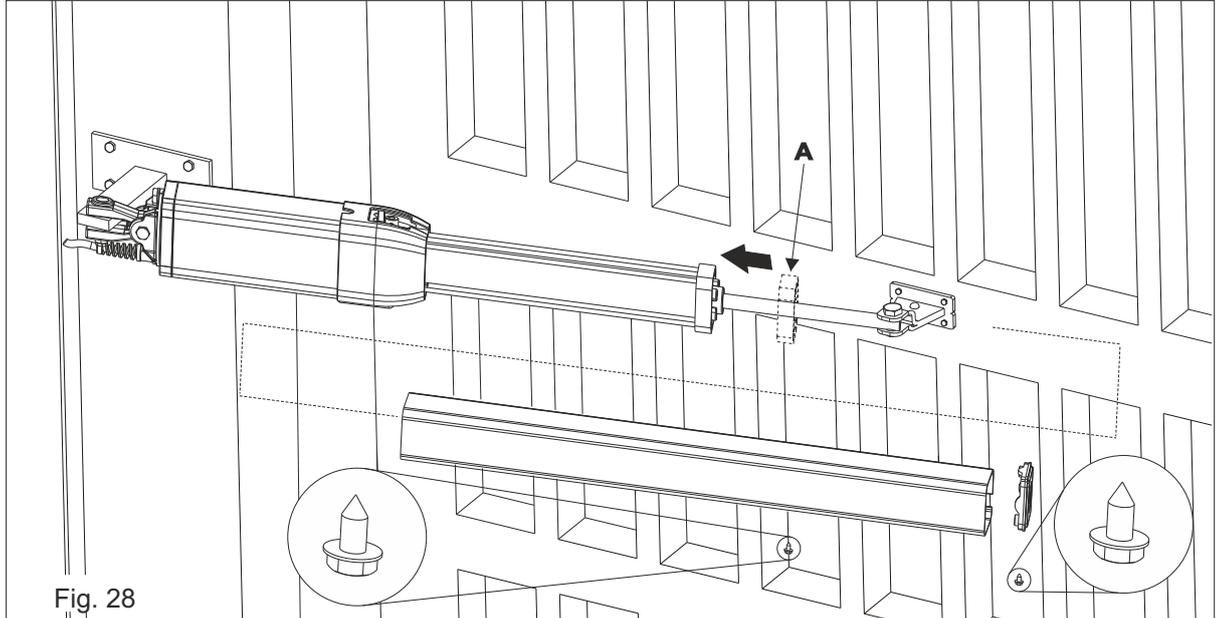

Fig. 28
Make sure to have inserted the antivibration plastic frame (A) before inserting the rod cover extrusion, as shown in Fig. 28